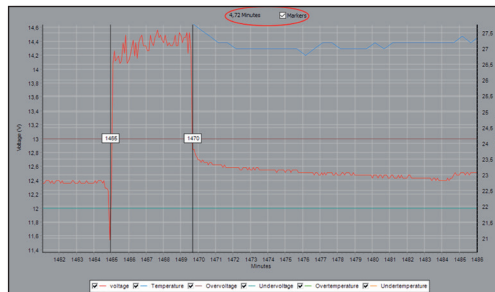

Figure 18: Markers
Step 8. The user can determine how long a specific period has lasted in the graph by using the markers that can be found to the left and right of the graph. The markers will be activated if the user selects the markers at the top in the graph. When the markers are no longer required, the user can deactivate them by removing the check mark (by deselecting). The system will indicate how long the period is between two markers at the top of the graph (Figure 18) by dragging the markers. The time unit is determined through the time unit panel (Figure 6).